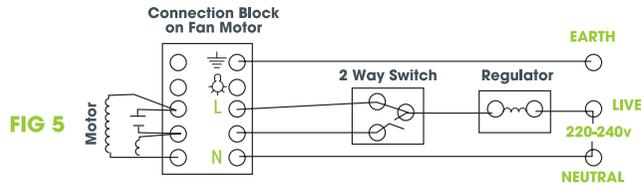

FIG 5
2.3.2 Forward and Reverse Direction connection (upward airflow) (FIG 5&6)